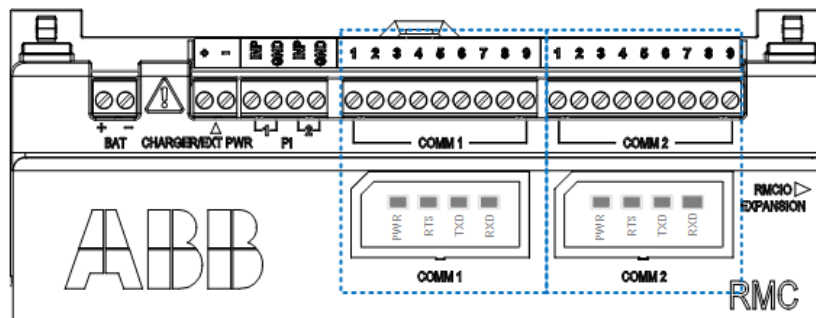

Figure 10: COMM terminals and modules
6. Insert the communication module in the appropriate slot (Figure 10). The communication module pushes the port cover downward when inserted.